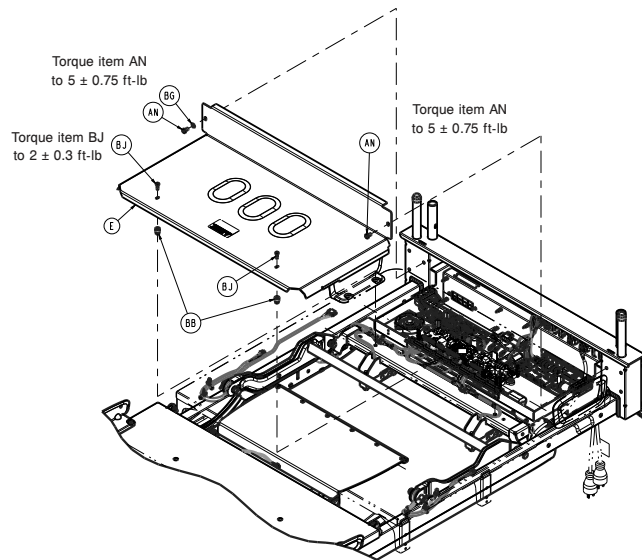

Figure 7 – Removing the cover
14. Using a T25 Torx driver, remove the two screws (BJ) that secure the litter electronics box cover (E) to the electronics box assembly (Figure 7). Save the screws.
15. Using a T30 Torx driver, remove the two screws (AN) that secure the litter electronics box cover (E) to the electronics box assembly (Figure 7). Save the screws and cover.
17. Using a T25 Torx driver, reinstall the two screws (BJ) to secure the litter electronics box cover (E) to the electronics box assembly (Figure 7).
18. Using a T30 Torx driver, reinstall the two screws (AN) to secure the litter electronics box cover (E) to the electronics box assembly (Figure 7).